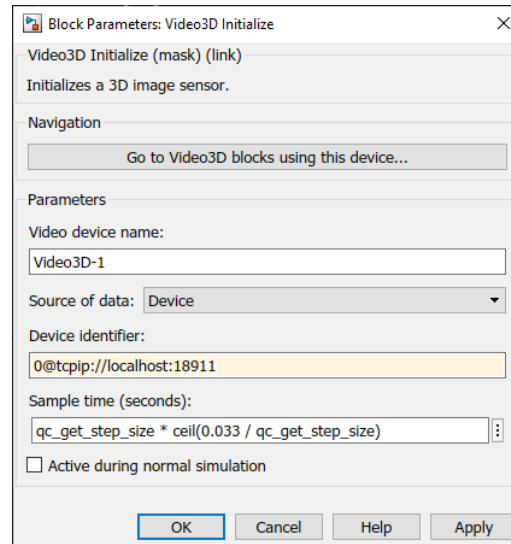

Figure 4: Configuring the Video3D Initialize block for a QBot 2e
1. If your model uses Video3D blocks, open the **Video3D Initialize** block as shown in Figure 4, and modify the **Device identifier** field as follows: